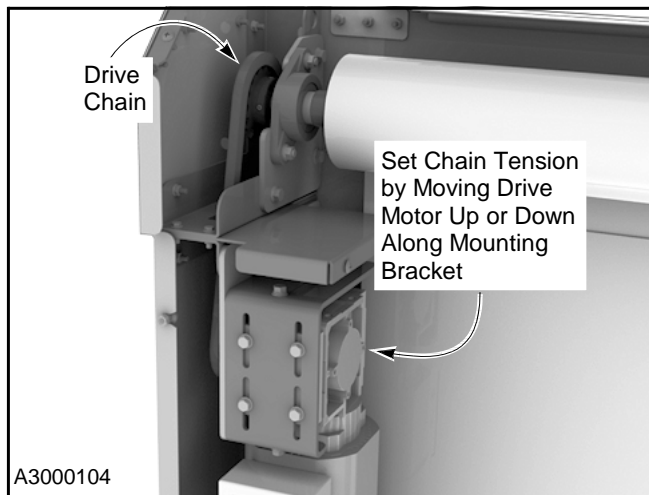

Figure 12
1. Inspect the drive chain for wear and tear. Replace when necessary. Make sure the master link is fully locked. (See Figure 12.)